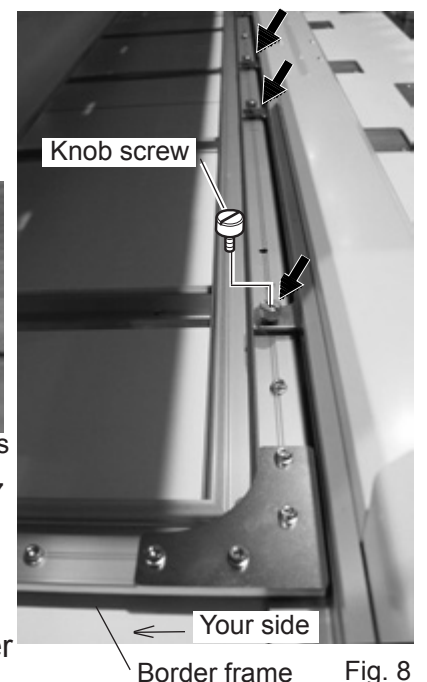

Fig. 8
7. Remove middle set screw on Table stay, shrink Table stay as illustrated in Fig. 8 and insert middle set screw.